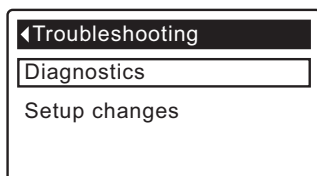

FIG. 79
6. Press the OK/MENU button to display the Troubleshooting menu (See Figure 79).
10. When finished viewing the Diagnostics screen, press the OK/MENU button. The display will go back to the Troubleshooting menu (Figure 79).